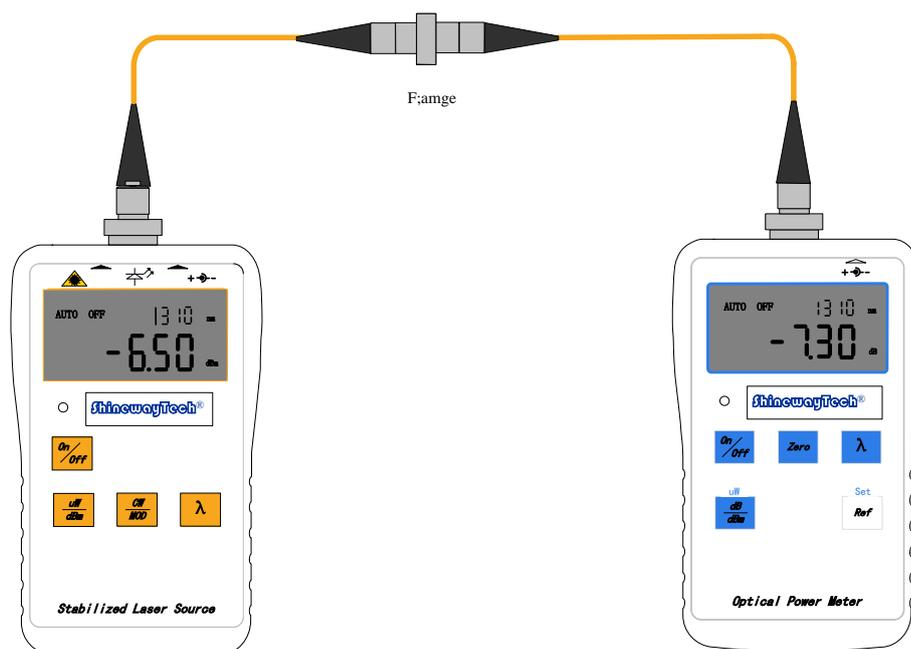

FIGURE19. CONNECTOR INSERTION LOSS TESTING
4. **Measure Connector Insertion Loss:** Disconnect the optical jumper cable end from the power meter and connect the power meter through flange. The power meter reads the connector insertion loss as shown in Figure19.